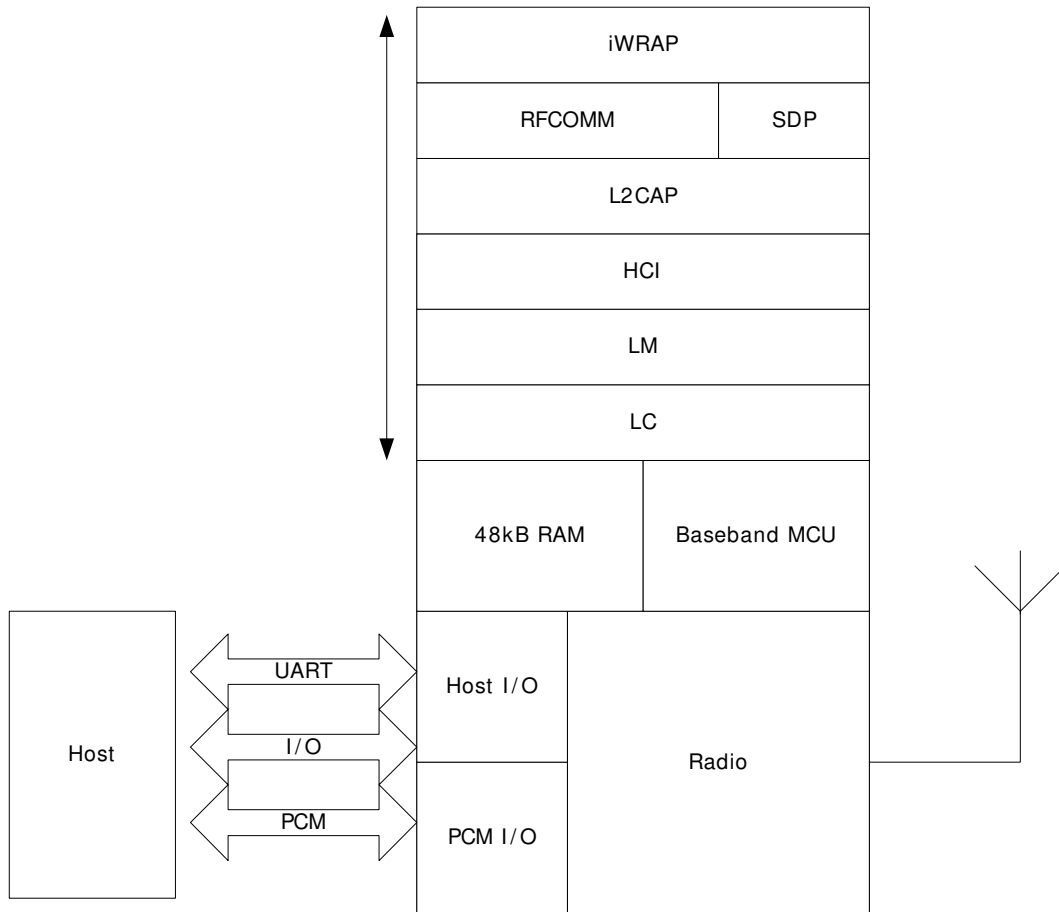

Figure 24: WRAP THOR VM Stack
In figure 24 above, the iWRAP software solution is described. In this version of the stack firmware shown no host processor is required to run the Bluetooth protocol stack. All software layers, including application software, run on the internal RISC processor in a protected user software execution environment known as a Virtual Machine (VM).
The host processor interfaces to iWRAP software via one or more of the physical interfaces, which are also shown in the figure 24. The most common interfacing is done via UART interface using the ASCII commands supported by the iWRAP software. With these ASCII commands the user can access Bluetooth functionality without paying any attention to the complexity, which lies in the Bluetooth protocol stack.